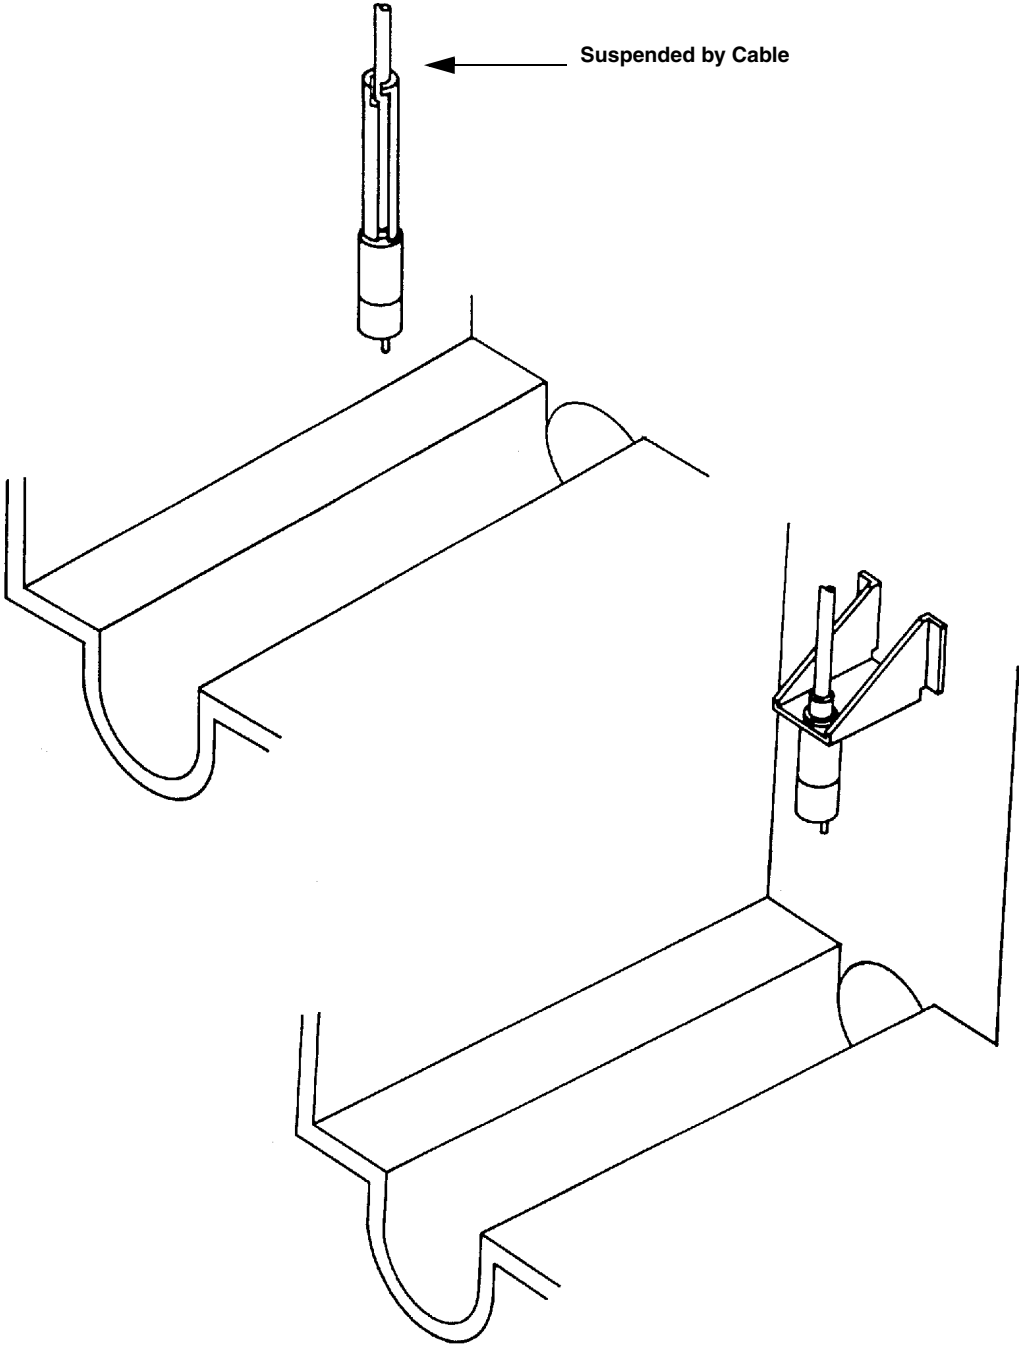

Figure 1-7 Mounting the Ultrasonic Level Sensor
1.4 Mounting the Sensor There are many ways to suspend or mount the ultrasonic level sensor over the flow stream. Some are shown in Figures 1-7 and 1-8 in this manual. Mounting hardware is listed in Appendix A. Select the method that best suits your application.